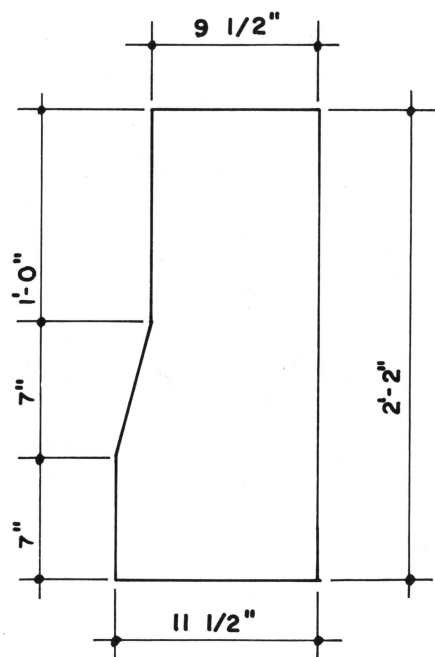

Figure 7: Layout of end of feeder unit. Cut two pieces to these dimensions.
- (b) Mark and cut side pieces to match dimensions shown in Figure 7.